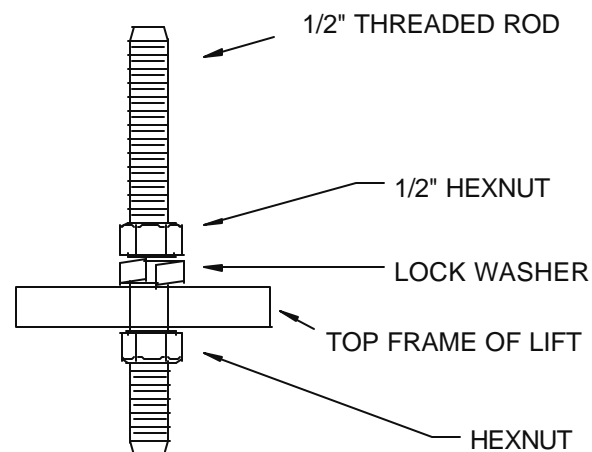

Figure 6.
1. Raise the lift, insert it into the ceiling and line up the four (4) mounting holes of the top frame to the .5" threaded rods of the supporting structure. Make sure that there is a ½" Hexnut and a lock washer before the lift is mounted -see figure 6. Once the lift's top frame has been inserted, add an hexnut and a lock washer to each threaded rod. Always leave top nut loose to allow adjustments until the lift is leveled.